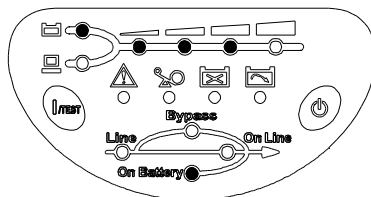

Fig 4-4 On-Battery Mode
- ✓ **ON-BATTERY mode:** When the UPS is in **【ON-BATTERY mode】** , the on- battery LED will light on, buzzer beep half second every 2 seconds and then the UPS will start supplying power to load through batteries. Shown as fig 4-4.